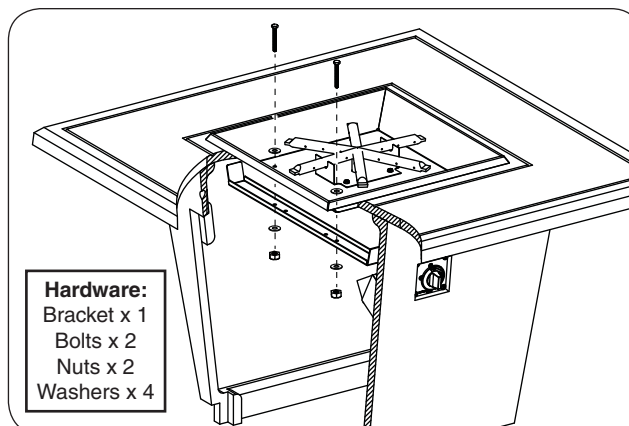

Fig. 21-4 Install bracket
6. Locate the supplied support bracket and install as shown in Fig. 21-4. The bracket must be inserted into the enclosure through the door opening, aligned with the holes found on the burner pan, and fastened with a 1/2" wrench and the supplied bolts (2), nuts (2), and washers (4).